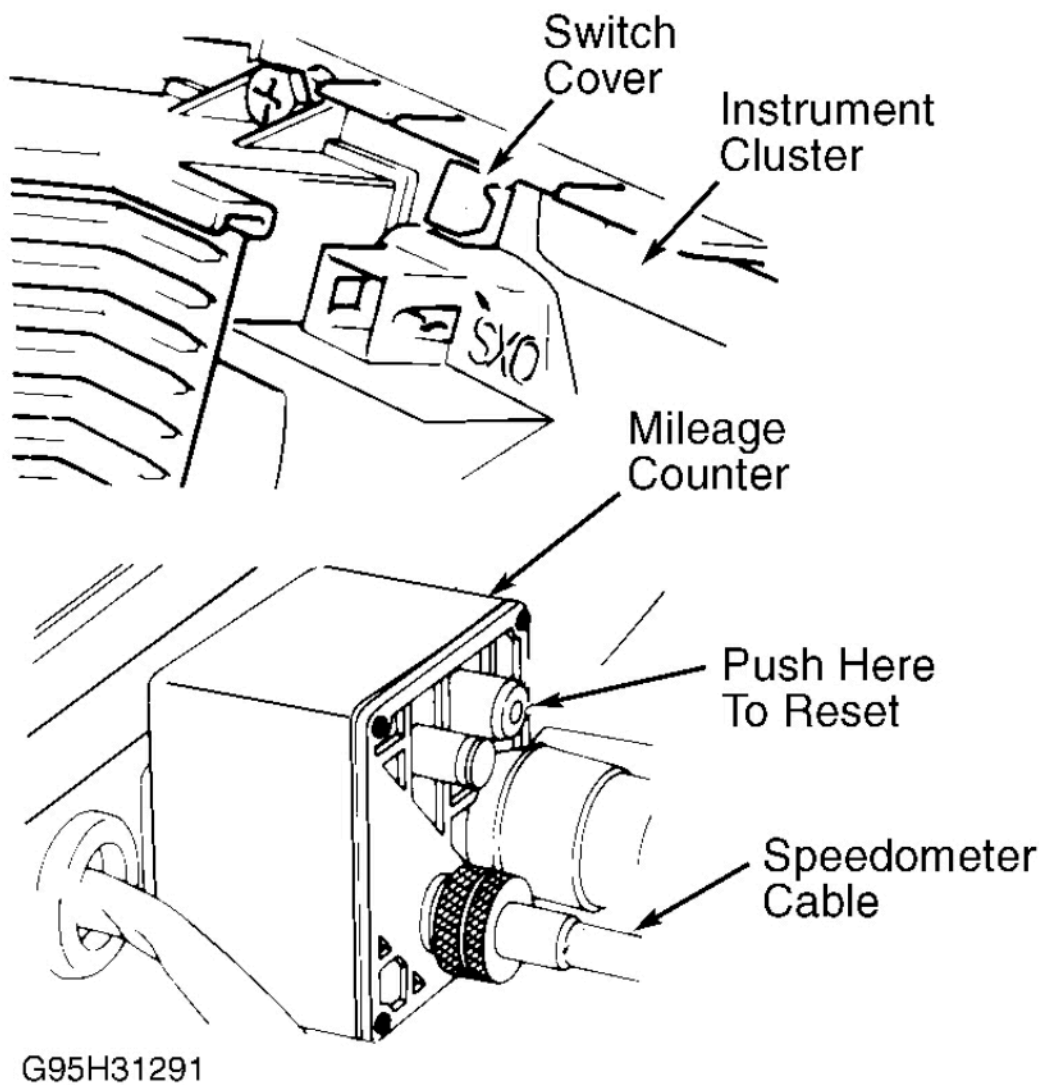

Fig. 1: Resetting Maintenance Reminder Light Mileage Counter
On models equipped with EGR warning light, warning light will come on every 15,000 miles. After EGR system has been checked, and any faults have been corrected, reset mileage counter. See **Fig. 1**.
- Break off square plastic switch cover at top center near imprinted OXS. See **Fig. 1**.
- Trace speedometer cable to reset box (in-line with cable). See **Fig. 1**.